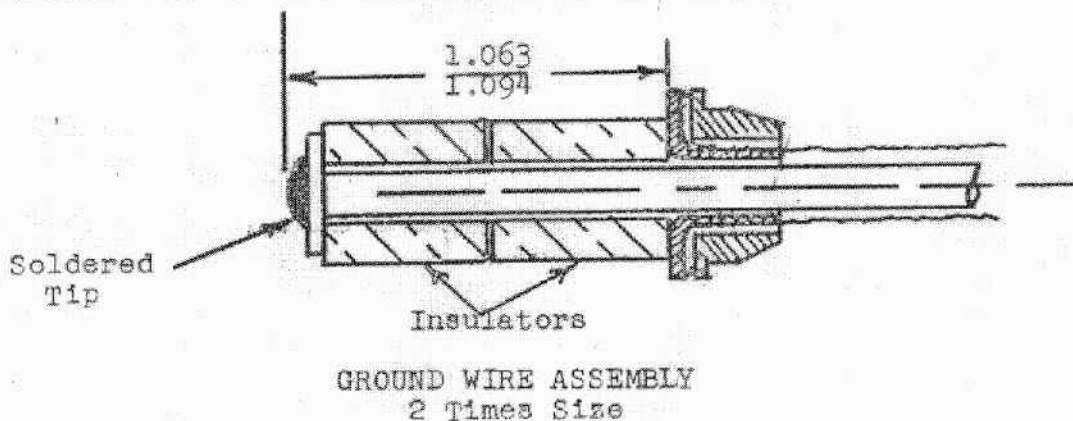

FIGURE 1
- 1) Since the ground terminal assembly controls the position of the ground spring, the terminal assembly should be checked for length after removing it from the magneto (Figure 1).